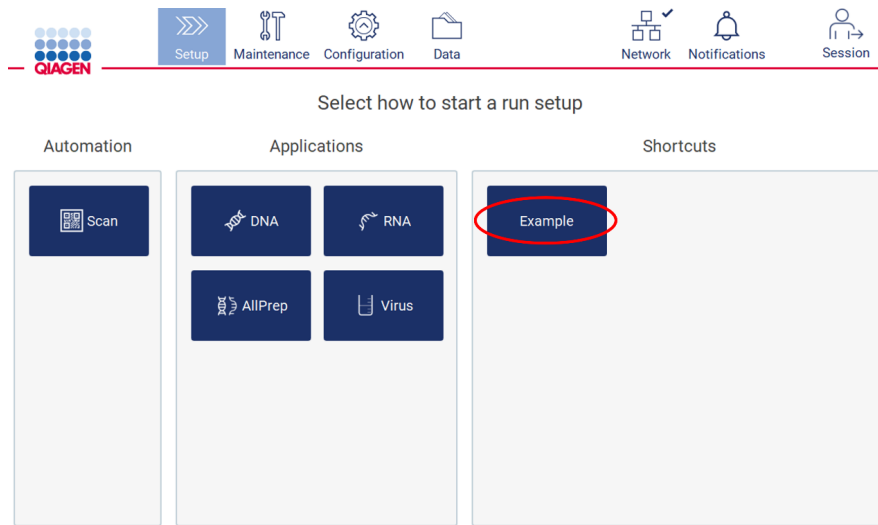

Figure 118. Setup screen with a shortcut (red circle).
1. Tap on the saved shortcut icon in the Setup screen (Figure 118). The shortcut icon has the name that was chosen during creation of the shortcut (Section 5.5.1).